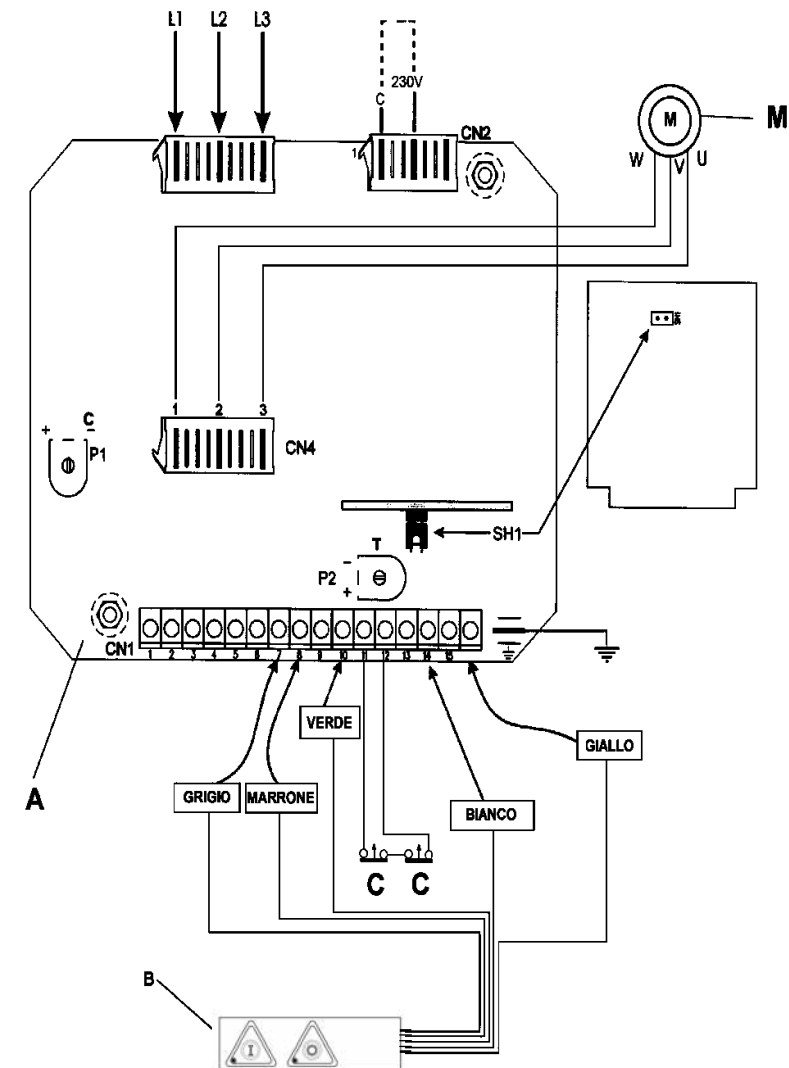

Fig. 2.6.3
2.6.3 Three-phases wiring diagram at 230 V(fig. 2.6.3)